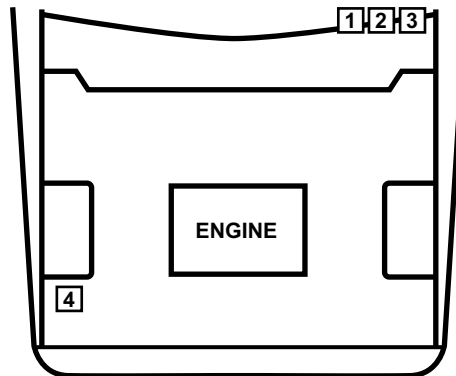

Figure 15-2 1983-84 Turbo common connector locations
- “1983–84 Turbo common connector locations” on page 144 (Table 15-2, Figure 15-2)